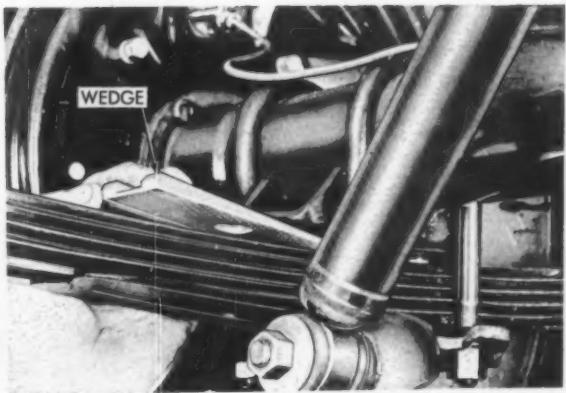

Fig. 9—Installing tapered wedges.
4.—Level the bubble and record the reading of angularity. With the car level, the differential carrier housing should incline down slightly. If the housing is level or elevated, add tapered shims between the rear springs and the differential housing spring plates to obtain a slight downward angle (Fig. 9). Recheck angularity.
6.—Add the readings of the carrier housing and the propeller shaft. They should total approximately  $2^{\circ}$ . Adjust to this total by adding or subtracting various thickness shims (Fig. 9).